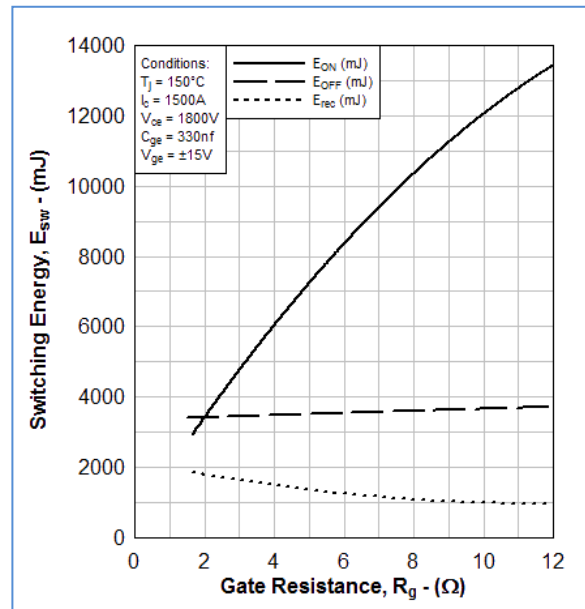

Figure 6: Typical switching energy VS gate resistance
- ii) E_{ON} , E_{OFF} and E_{rec} Vs gate resistance Fig. 6.